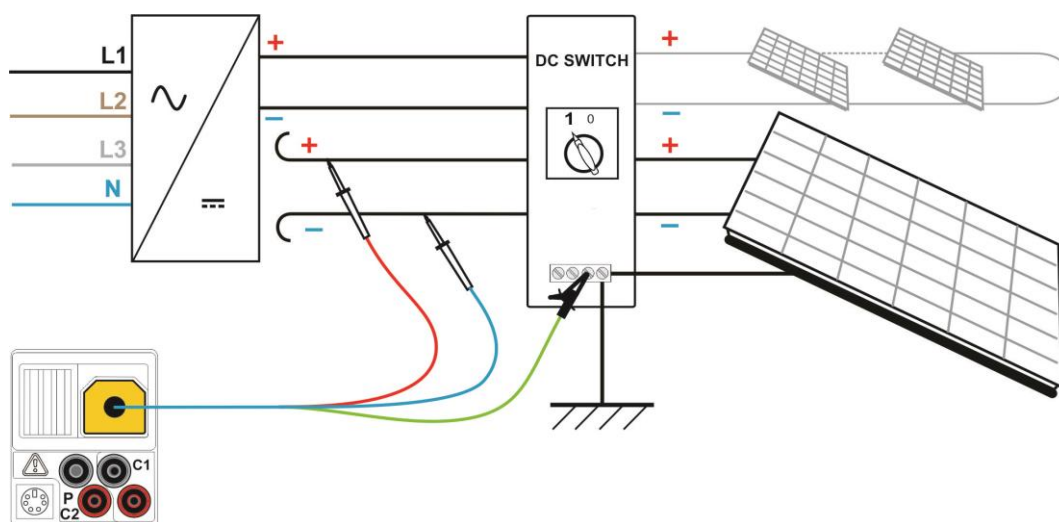
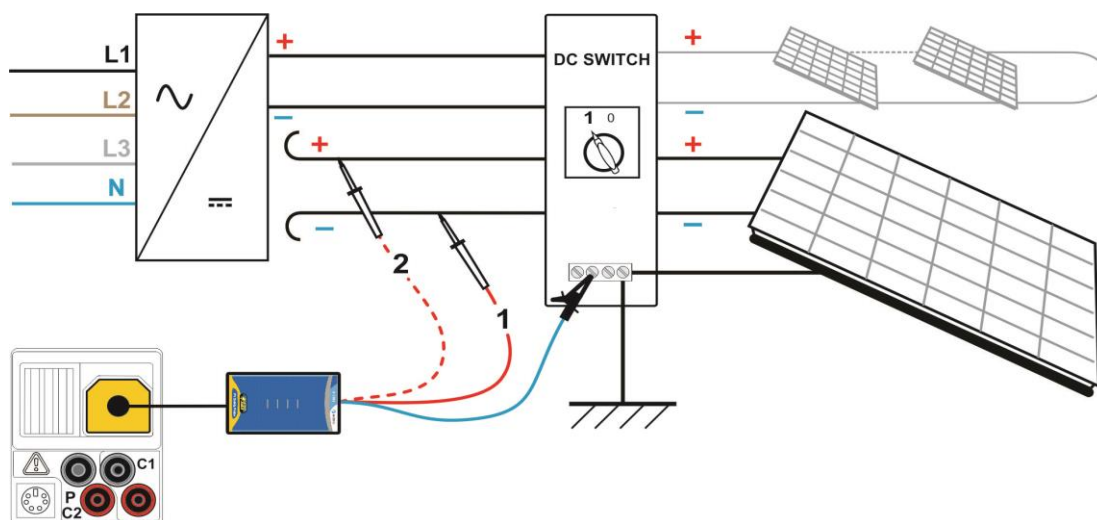

Figure 5.2: Connection for insulation measurement with universal PV test lead
Figure 5.3: Connection for insulation measurement with PV Safety Probe
- ❑ **Connect** universal PV test lead or PV Safety probe (A 1384) to the instrument (see Figure 5.2 and Figure 5.3)
- ❑ **Connect** universal PV test lead or PV Safety probe (A 1384) to the PV system (see Figure 5.2 and Figure 5.3 - step 1).
- ❑ **Reconnect** DC+ lead on PV Safety probe (A 1384, (see Figure 5.3, - step 2).